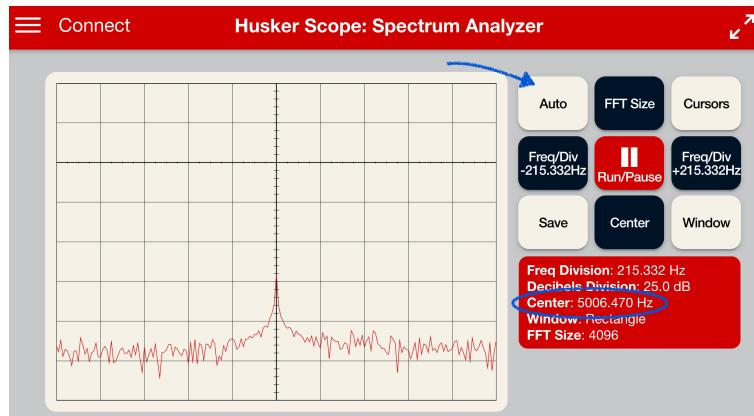

Figure 4: Spectrum Analyzer showing a peak near 5kHz
- ( ) Husker Scope should then display something similar to Figure 4.